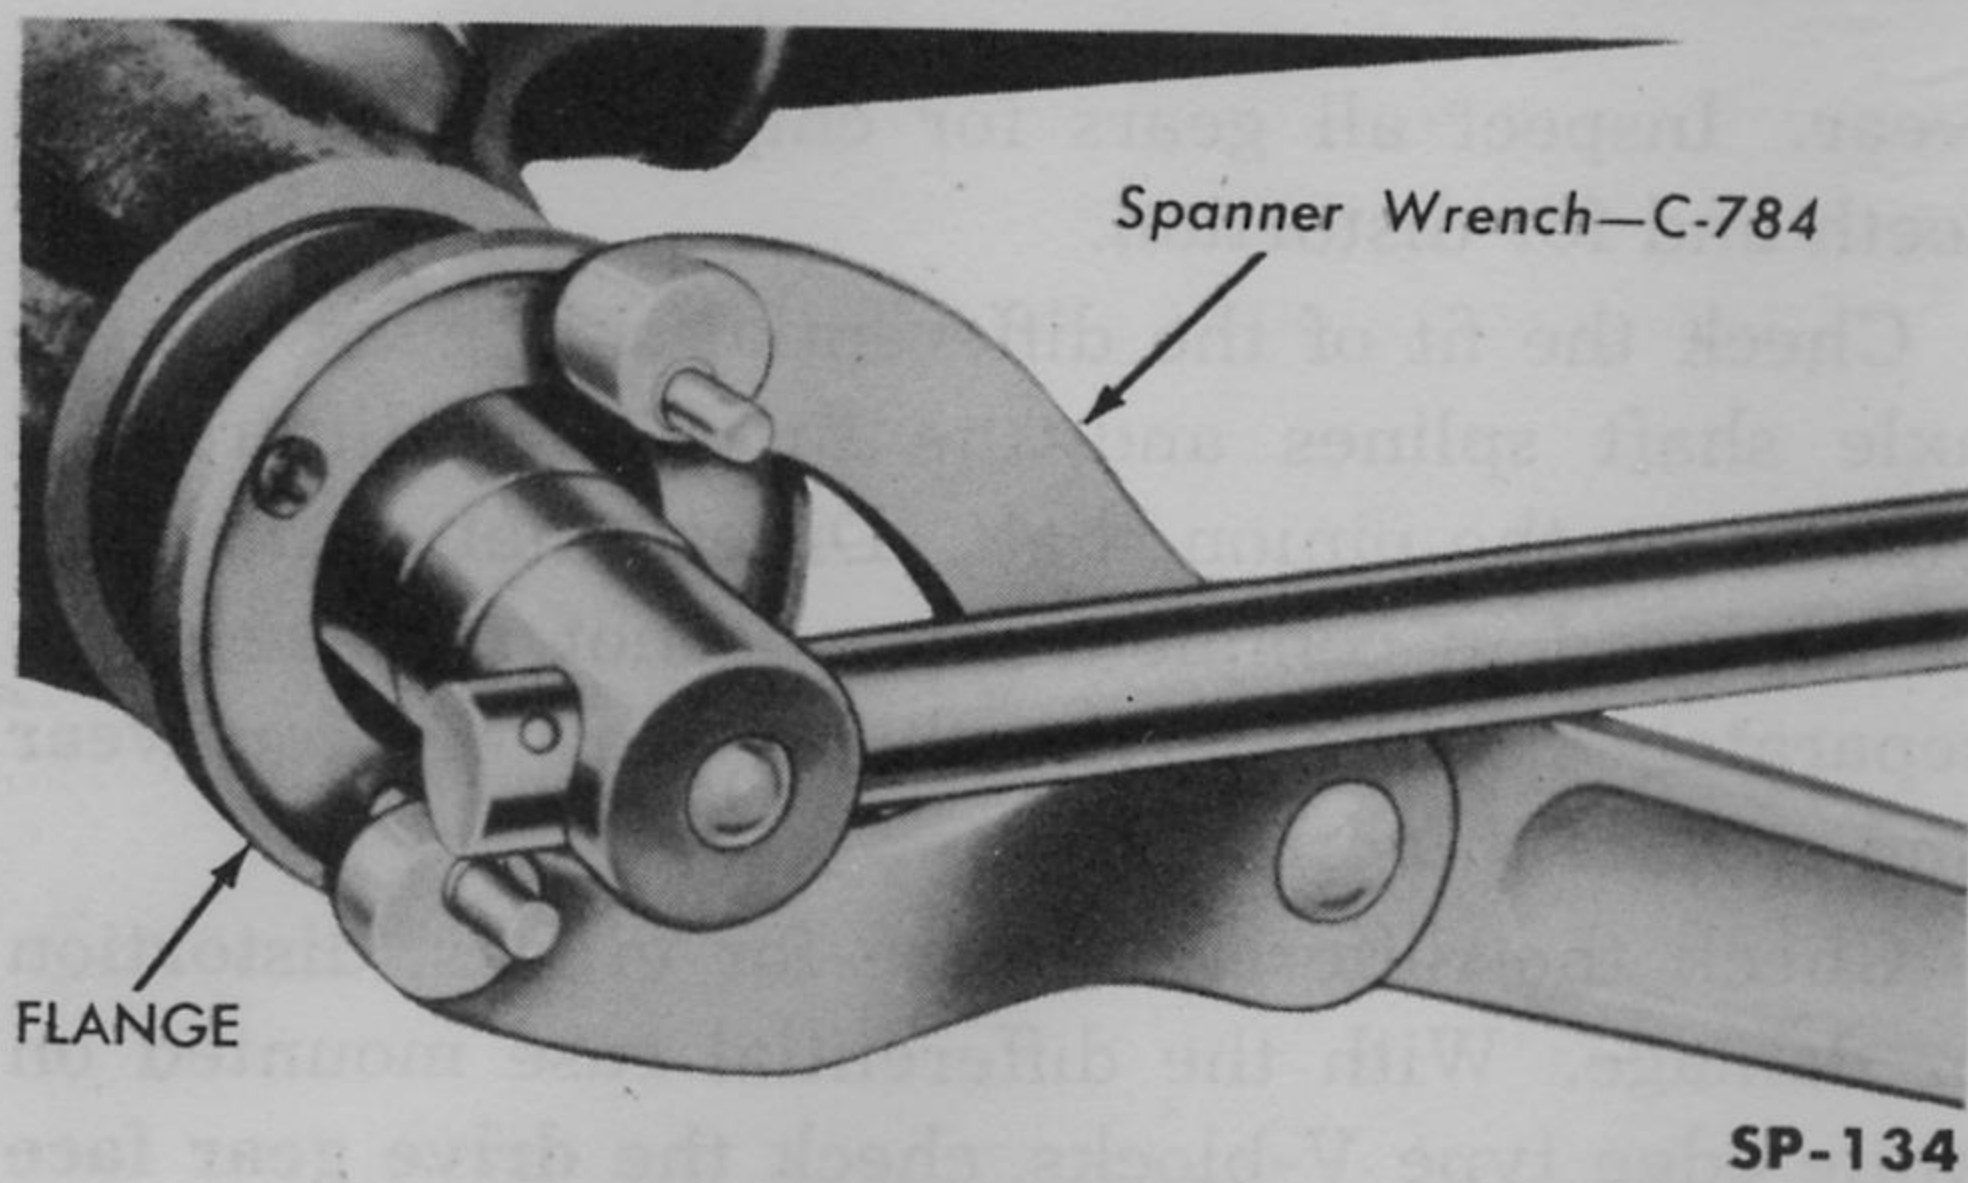

Fig. 262—Removing Companion Flange Nut
1. Remove the companion flange (or yoke) nut, using a suitable socket wrench and self-adjusting Spanner Wrench C-784 (Fig. 262).